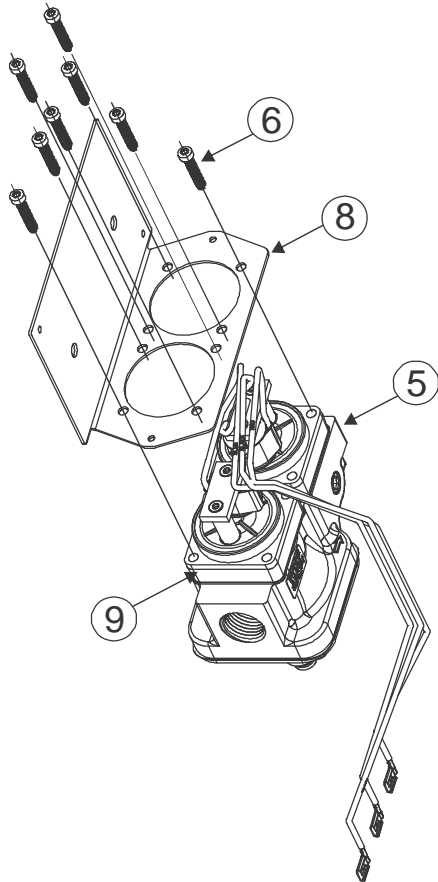

Figure 8A:
1. Place new mounting plate (Item 8) either for kit (KIT-VLV10A-601 for down position, KIT-VLV10A-602 for up position or KIT-VLV10A-600 flat [not shown]) onto the valve body (Item 5) pulling wires through the opening for the corresponding coil in the mounting plate (see Figure 8A, 8B and 8C).